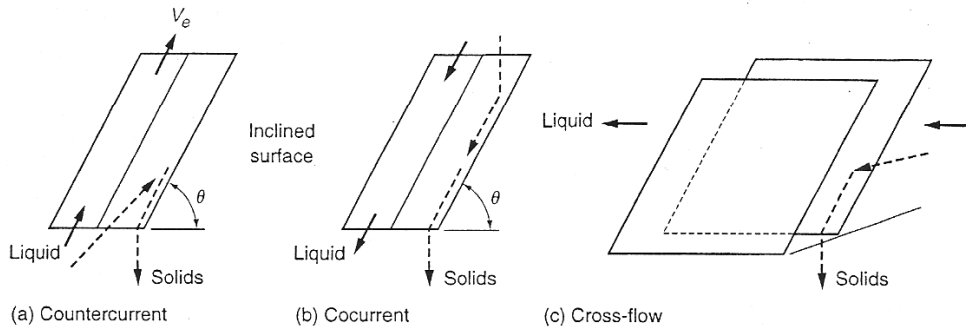

Figure 5-26
Inclined settling systems are generally constructed for use in one of three ways with respect to the direction of liquid flow relative to the direction of particle settlement: (1) countercurrent, (2) cocurrent, and (3) cross-flow. The flow patterns are shown schematically on Fig. 5-26.